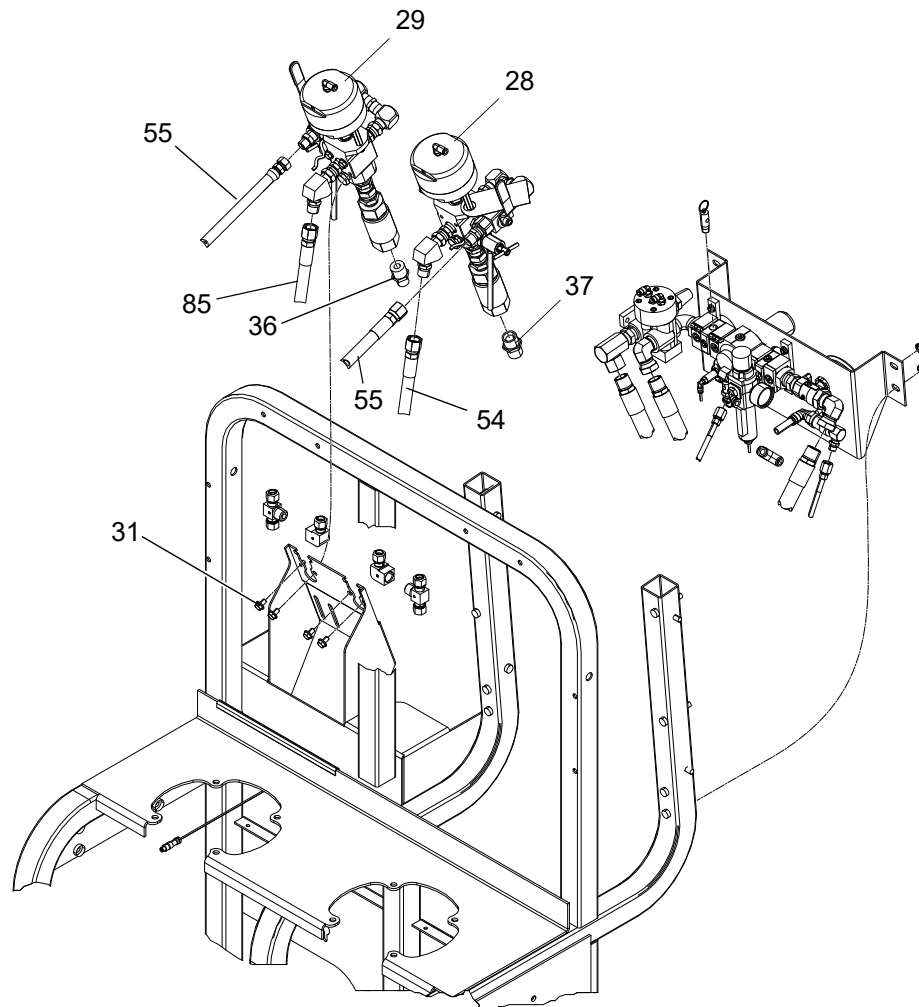

FIG. 6
2. Disconnect all fluid lines from dosing valves (28 or 29). See FIG. 6.
3. Remove two bolts (31) securing dosing valve to bracket.
5. Disconnect pressure sensor (831) from dosing valve. See page 76.